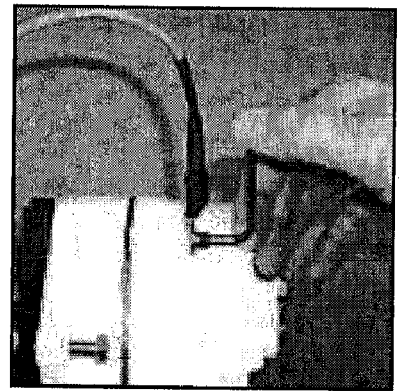

Figure 5 - Mounting temperature sensor mid-case on small case alternator.
MID CASE MOUNT - Small Case Alternator - Remove (1) of (4) 5/32" Allen bolts, install probe, re-secure bolt. (See **Figure 5**.)